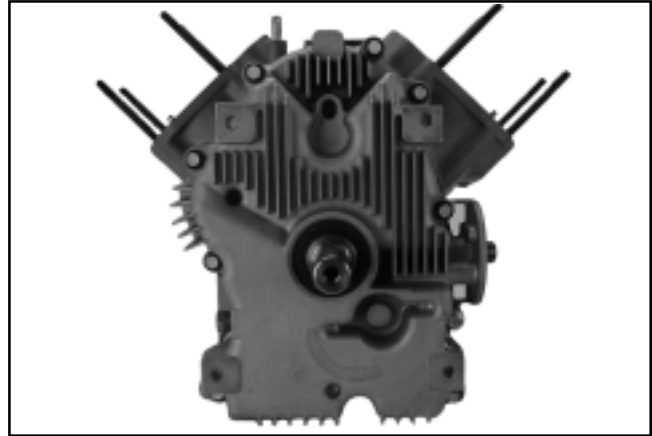

Figure 9-72. Removing Oil Pan Fasteners.
1. Remove the ten hex. flange screws securing the oil pan to the crankcase. See Figure 9-72. Note the location of the silver plated (grounding) hex. flange screw, to the right of the oil filter boss.